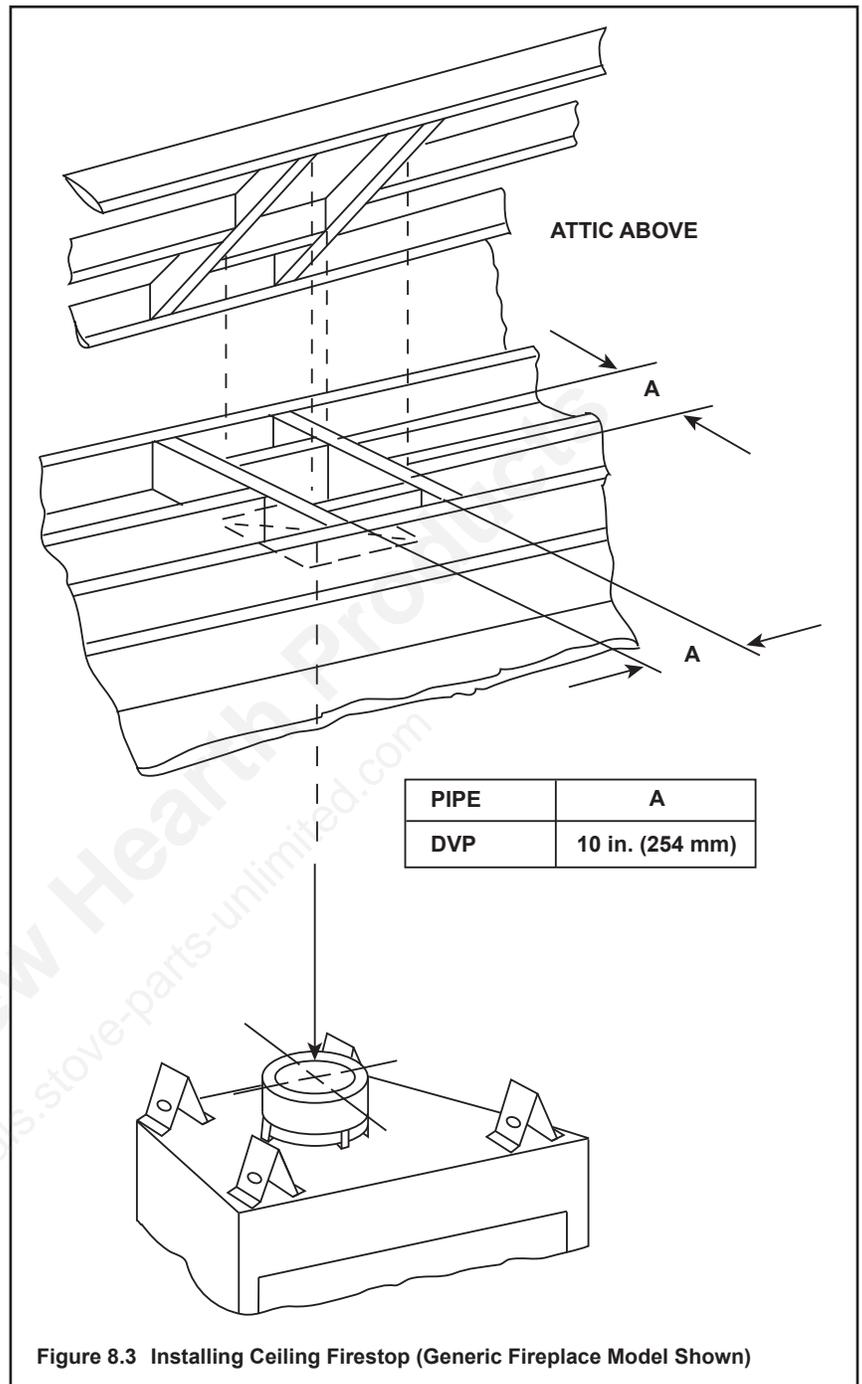

Figure 8.3 Installing Ceiling Firestop (Generic Fireplace Model Shown)
- **DVP pipe only** - Frame an opening 10 in. by 10 in. (254 mm by 254 mm) whenever the vent penetrates a ceiling/floor (see Figure 8.3).